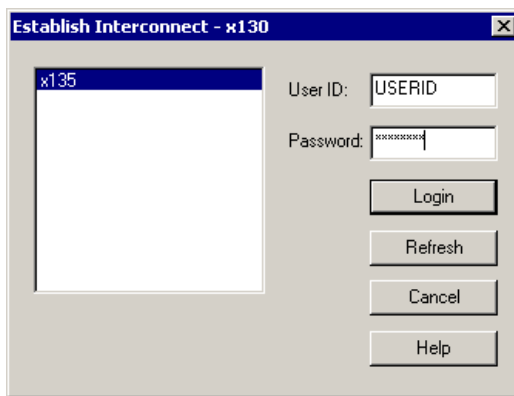

Figure 3-11 *Selecting a system over the RS-485 network*
3. You will be prompted to choose an available machine to work with and to provide a user ID and password (see Figure 3-11):